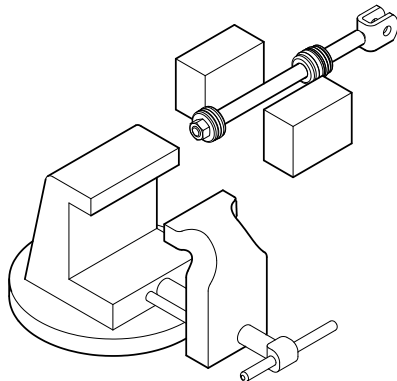

Figure 4-3, Cylinder Shaft
6. Clamp the rod assembly in a soft jawed vise on the wrench flats, **not on the rod surface**. If the rod does not have wrench flats use two pieces of wood on both sides of the rod to prevent scarring. (Figure 4-3)